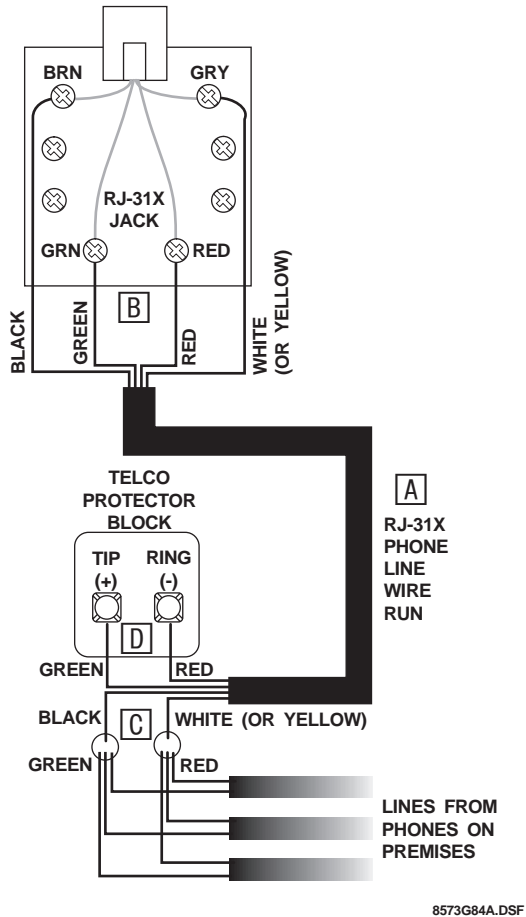

Figure 33. Installing an RJ-31X Phone Jack
1. Run a 4-conductor cable from the TELCO protector block to the jack location (see **A** in Figure 33).
2. Connect one end of the cable to the jack (see **B** in Figure 33).
3. At the TELCO protector block, remove the premises phone lines (lines from phone jacks on premises) from the block and splice them to the black and white (or yellow) wires of the 4-conductor cable (see **C** in Figure 33).
4. Connect the green and red wires from the 4-conductor cable to the TIP (+) and RING (-) posts on the block (see **D** in Figure 33).